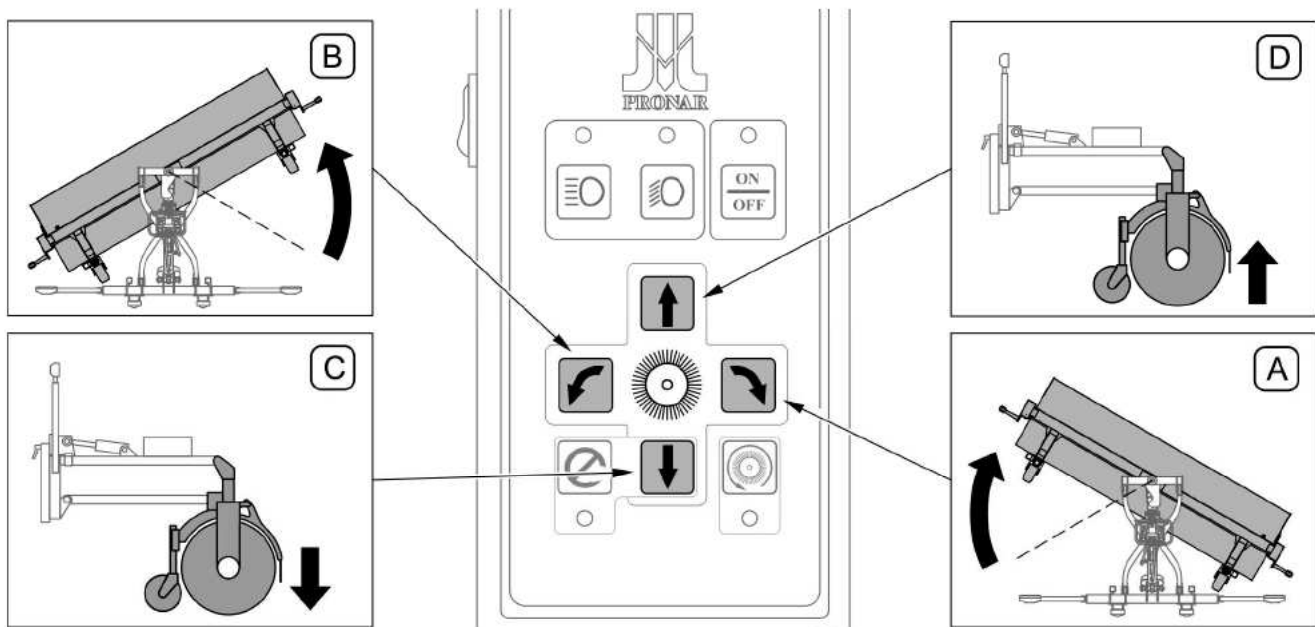

FIG. 4.13 Changing the sweeper's working position (ZM-S25 sweeper with hydraulic brush turning)
Working position of ZM-S25 sweeper with hydraulic brush turning can be smoothly adjusted within the range of $+30^{\circ}$ / -30° . In order to change the sweeper's working position, the control panel should be ON. Push-buttons (A and B) on the control panel are used for changing the sweeper's working position (FIG. 4.13). Push-button (A) is used for shifting the brush to the right (looking in the direction of vehicle travel), whereas push-button (B) is used for shifting the brush to the left. In order to set the brush in an intermediate position, release the corresponding push-button in a proper moment.
The brush (FIG. 4.13) is raised when push-button (D) is pressed. Press push-button (C) to lower the brush.